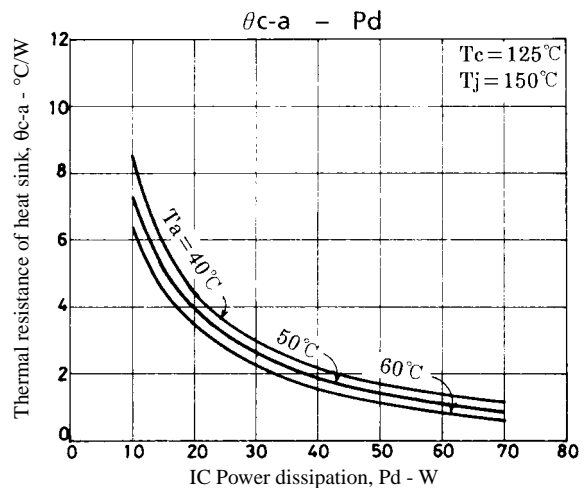

Figure 3. STK4171V θc-a - Pd
Figure 3 shows the relation between Pd and θc-a given from (1) and (3) with Ta as a parameter.
The thermal resistance of a heat sink is obtained from Figure 3.